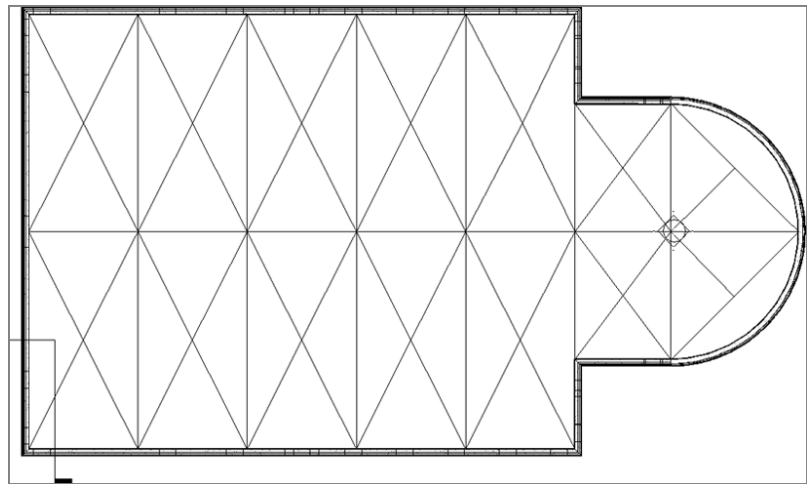

FIGURE 7.16: The completed roof
11. Your roof should look like Figure 7.16 when you've finished.